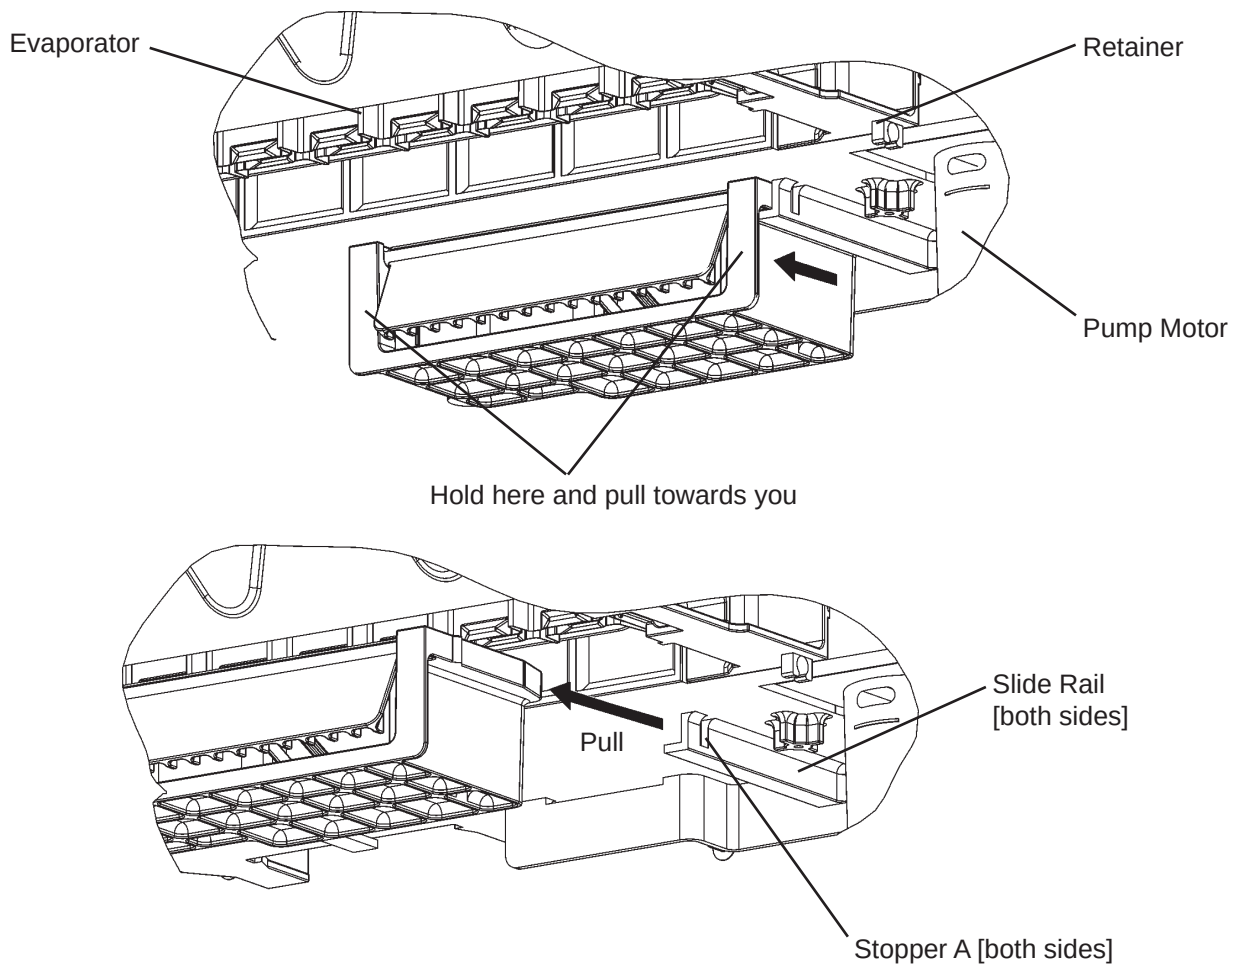

Fig. 3
- 5) Pull down and remove the lead wire from the retainer on the right side of the bin control switch. See Fig. 3.